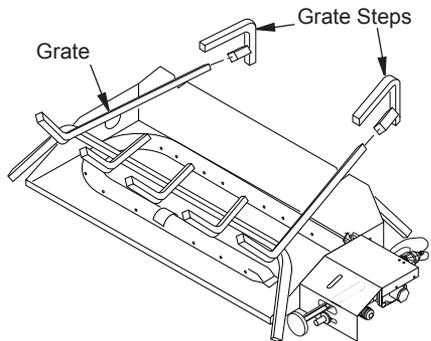

Figure 12 - Installing Grate (Pan Material Not Shown)
2. Slide two rear log grate steps over the two outer horizontal supports on grate as shown in Figure 12.